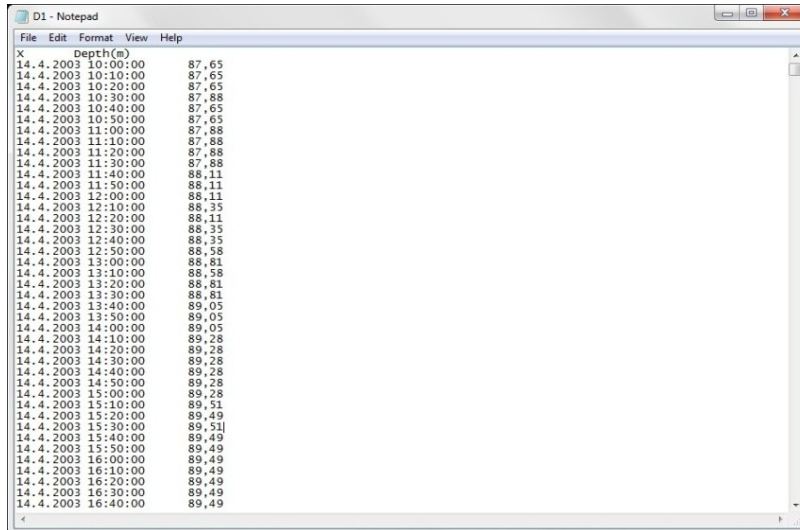

Figure 14.4 Text file
- Text file (.txt) (see figure 14.4)